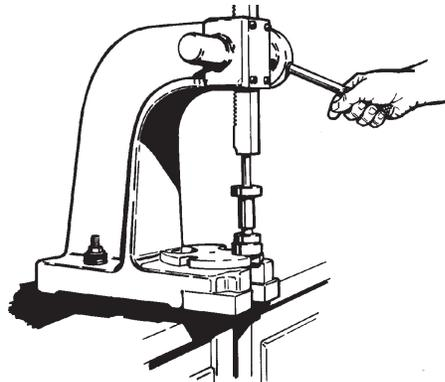

Figure 4-21
6. Using the arbor press, remove the two (2) bearings from the shaft. Refer to Figure 4-21. If the inner race is well supported during this operation, no damage will be done to the bearings.